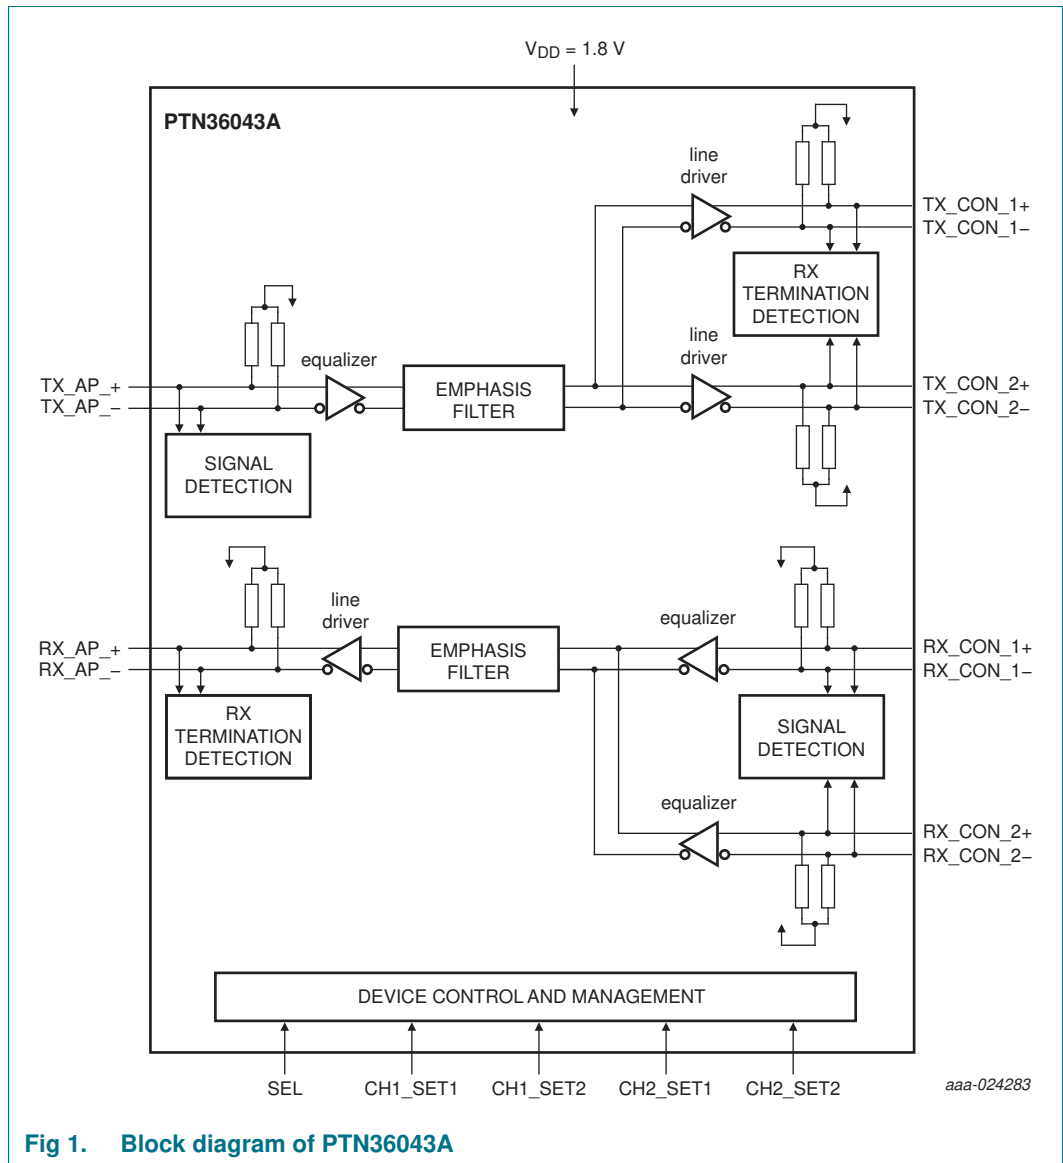

Fig 1. Block diagram of PTN36043A
Refer to Figure 1 “Block diagram of PTN36043A”.
- **Active state** wherein device is fully operational, USB data is transported on either port 1 or port 2 in Figure 1. In this state, USB connection exists and the Receive Termination indication remains active. But there is no need for Receive Termination detection.